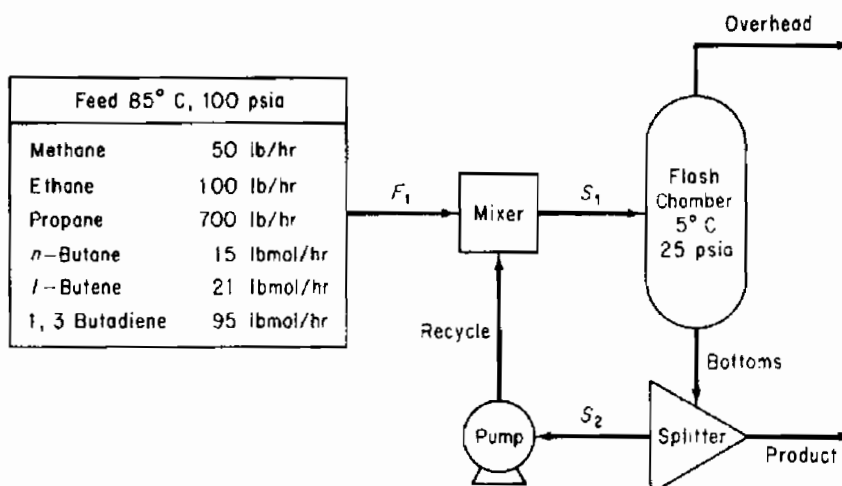

Figure P31.13
- 31.13** A gas feed mixture at 85°C and 100 psia having the composition shown in Figure P31.13 is flashed to separate the majority of the light from the heavy components. The flash chamber operates at 5°C and 25 psia. To improve the separation process, it has been suggested to introduce a recycle as shown in Figure P31.13. Will a significant improvement be made by adding a 25% recycle of the bottoms? 50%? With the aid of a computer process simulator, determine the molar flow rates of the streams for each of the three cases.